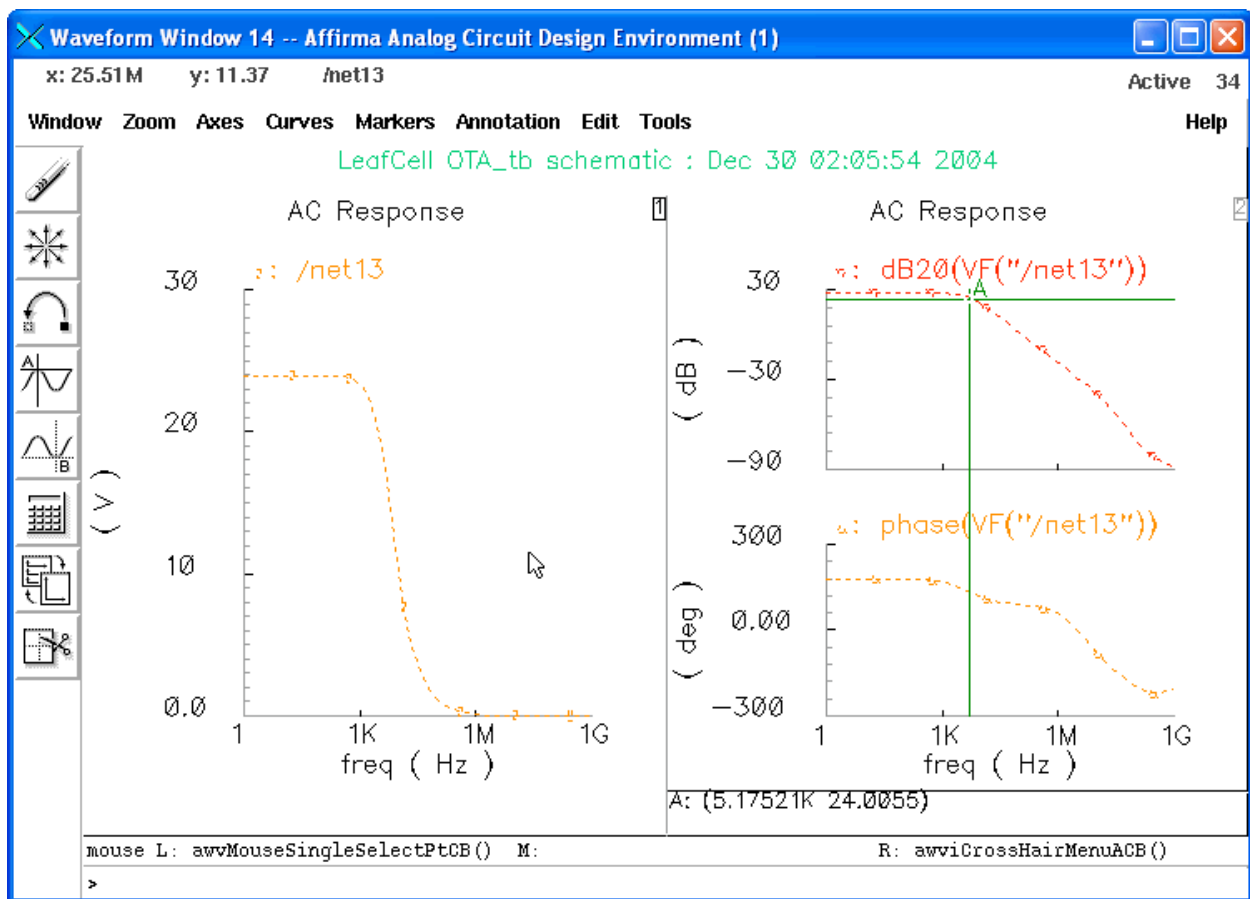

Figure 146: Bode Plot is shown in section 2 in the waveform.
13. Select the output terminals, then press *Esc*, the result waveform will show (Figure 146.) The Bode Plot is shown in *section 2* in the *Waveform Window*. However, by using *Crosshair Marker A*, we find that the -3dB point is at ~5 KHz instead of 4MHz in our Spec. That is, the GB spec is not met.